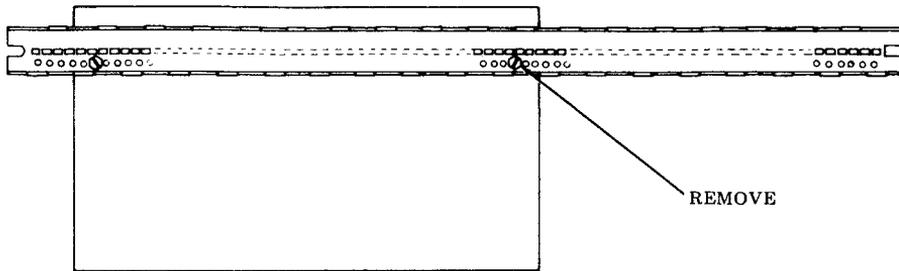

Fig. 23 Channel
- (d) Remove the screw securing the right rear side of the circuit card to the channel (Fig. 23).